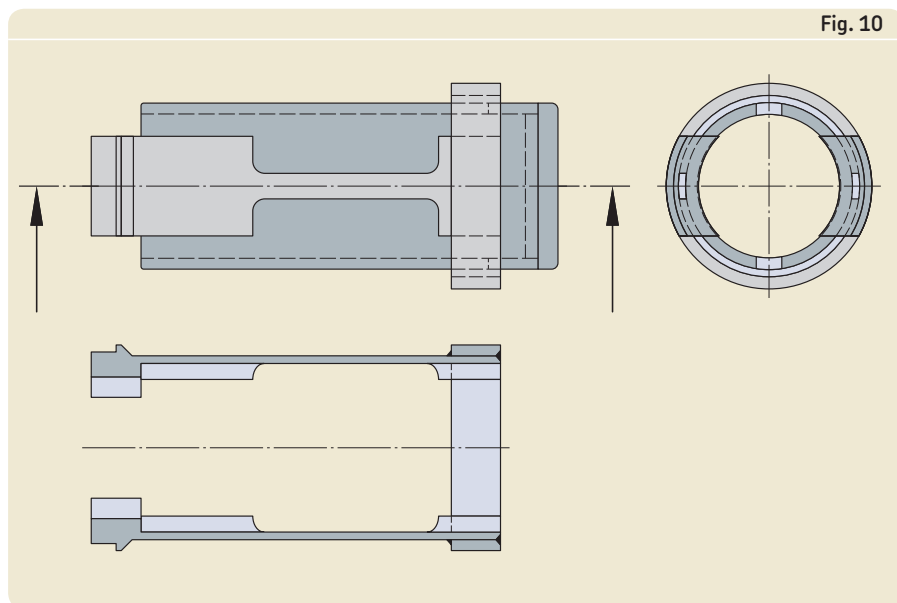

Fig. 10
- Use a dismounting tool as shown in (**→ fig. 10**). This tool is a stepped sleeve with an abutment to face the end of the intermediate sleeve. When the stepped sleeve is squeezed, the abutment diameter is of course small enough to pass the bore of the bearing, and the length of this stepped sleeve is sufficient to press out the bearing at the other end of the roll.